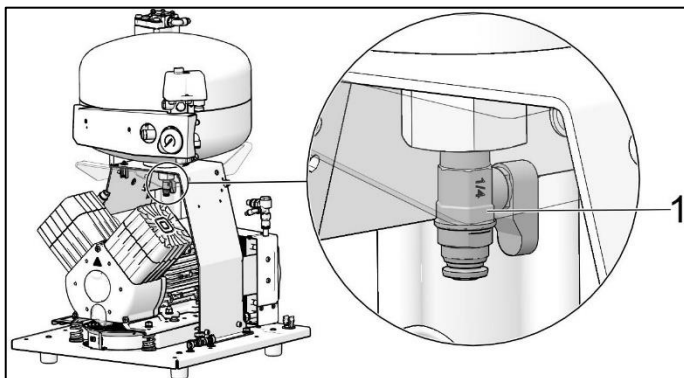

Fig. 17: Condensate drain
If necessary, it is possible to drain the air tank using the drain valve (1) from the lower side of the air tank (Fig. 17).